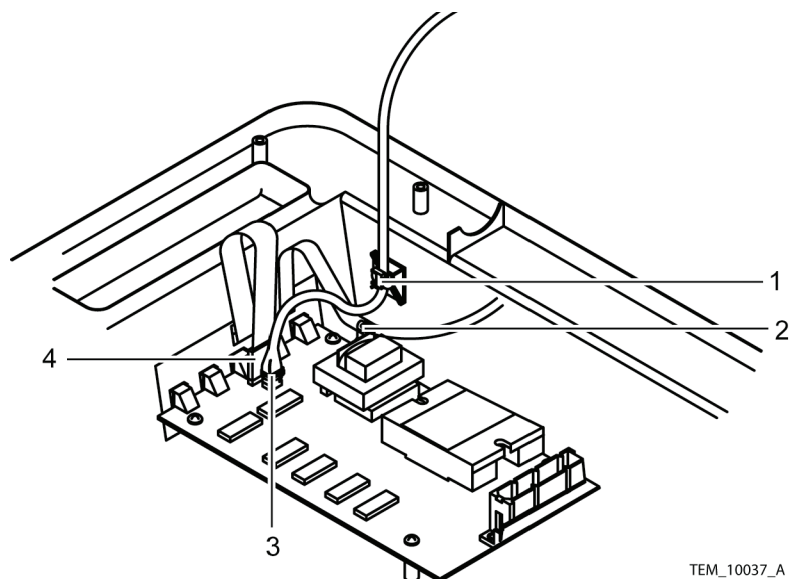

Figure 29. Cable Connections
21. Connect the ribbon cable (Figure 29, item 4) to the Control PCBA.
22. Connect the thermistor cable (Figure 29, item 3).
23. Install a cable tie around the thermistor cable connector (Figure 29, item 3) and Control PCB connector to secure the thermistor cable to the PCBA.
24. Connect the keypad grounding strap and blower ground wire. See Figure 29, item 2. Tighten the screw to 4 to 6 in/lbs (10 to 15 cm/kg).
25. Install a cable tie around the thermistor cable and the cable tie mount (Figure 29, item 1) to secure the thermistor cable to the front cover.